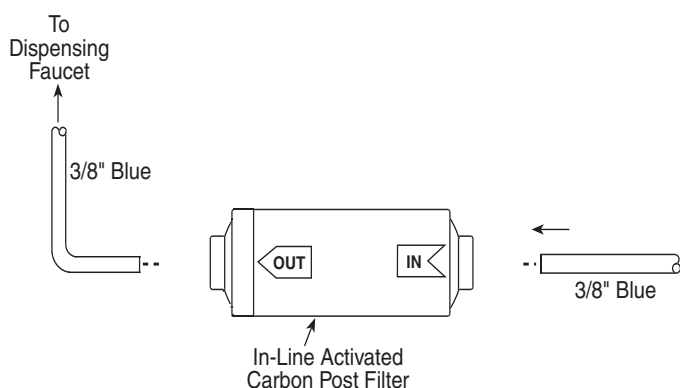

Figure 5
4. Firmly reconnect the polytubes to the new Post Filter. (Refer to Fig. 5, page 15.)